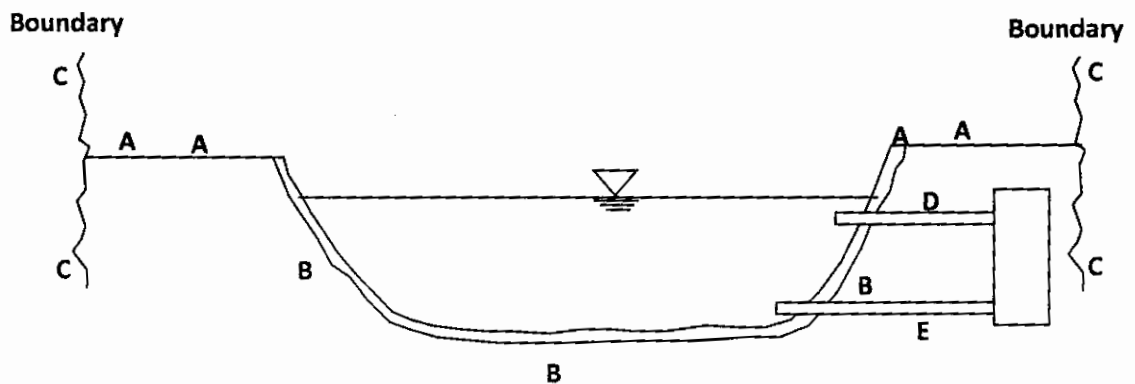

Figure Q2A
- 2A. Figure Q2A below show a layout of a storage pond which is provided for water supply purposes. If you are asked to be a designer , describe briefly what you would provide at the locations designated A, B, C D and E